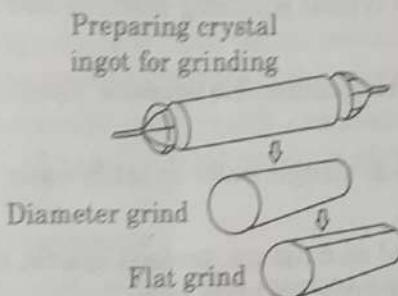

Fig. 1.10.1. Flat grind along the length of the ignot.
4. After diameter grinding, one or more flats are ground along the length of the ingot as shown in Fig. 1.10.1.